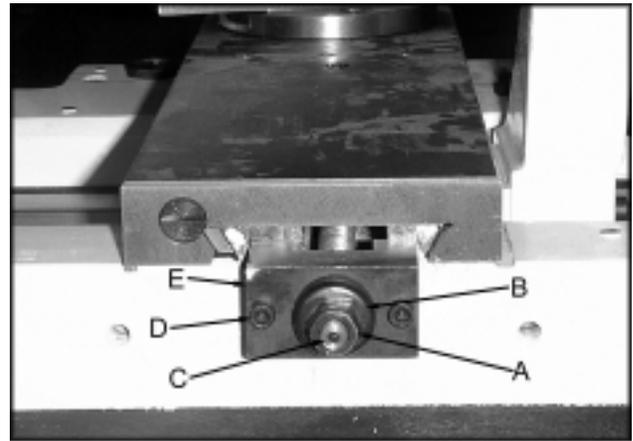

Fig. 1
3. Remove the dust cover (29) held in place with six screws (5).
7. Remove two nuts (A, Fig. 1) and the bearing cap (B, Fig. 1) from the end of the cross slide screw (C, Fig. 1)
9. Remove two hex socket cap screws (D, Fig. 1) and the block (E, Fig. 1).